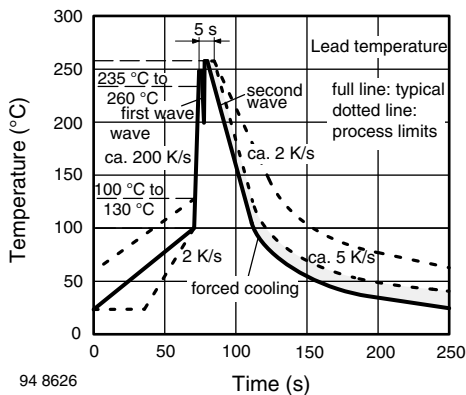

Fig. 2 - Wave Soldering Double Wave Opto Devices
Temperature/time profiles of the entire process are given in figure 2.
For SMD devices which are qualified for wave soldering, the temperature profile under figure 2 is also valid. For wave soldering two cycles are allowed (1).